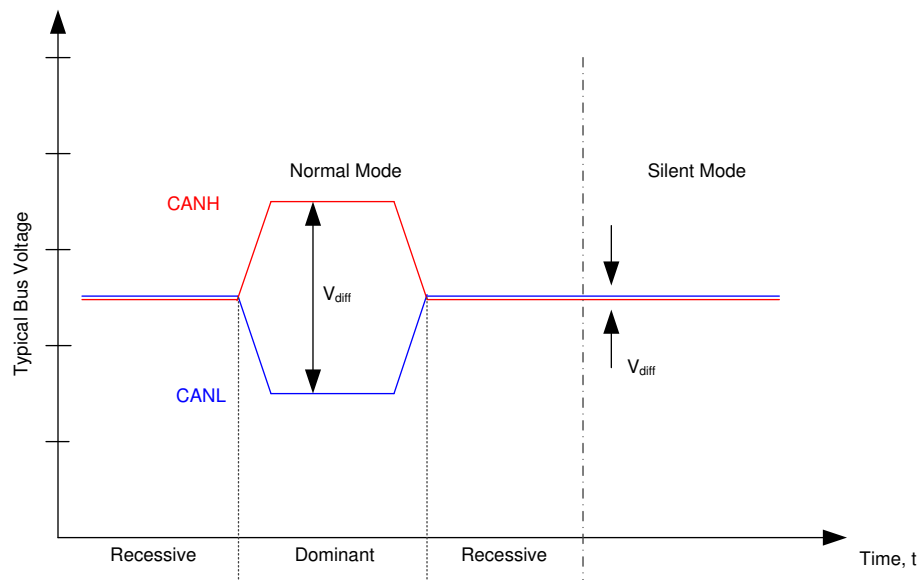

Figure 7-1. Bus States
The CAN bus has two logical states during operation: recessive and dominant. See Figure 7-1.
(1) X = irrelevant
(2) For bus state see 図 7-1